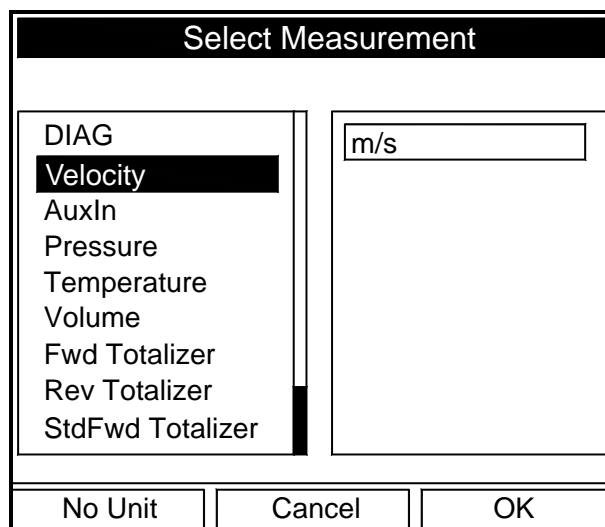

Figure 1-26: Data Source Selection Window
2. Scroll to the next prompt and select the Data Source measurement type from a list of choices (see Figure 1-26 below).
- e. Press [F3] (OK) to confirm your selection.